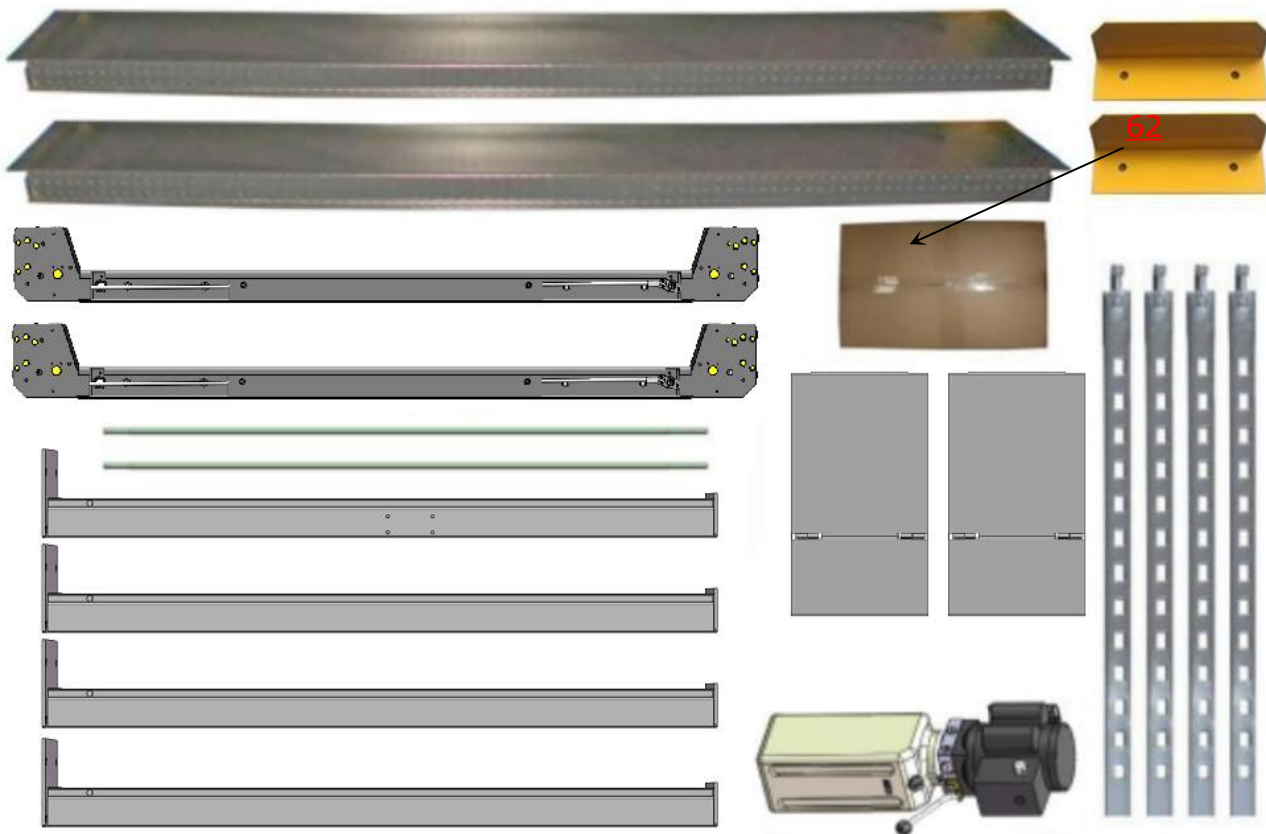

Fig.8
5. Move aside the parts and check the parts according to the shipment parts list(See Fig. 8).